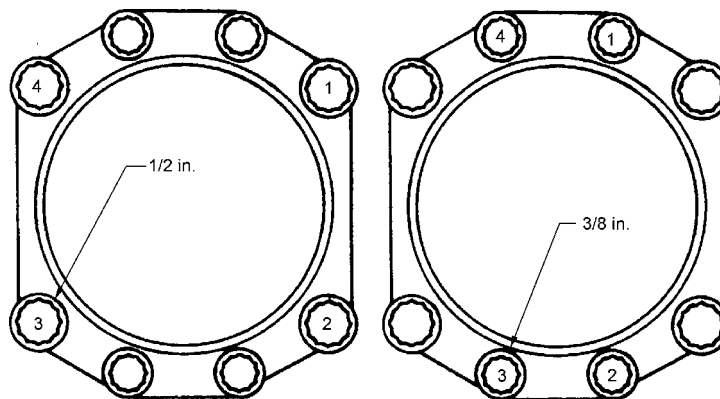

Figure 18
- (1) Tighten the 1/2-20 nuts on the cylinders in the sequence shown in Figure 18, as per the applicable torque values:
- (2) Tighten both ends of the free thru-studs simultaneously at the all locations. Make sure all thru-studs have at least 1-1/2 threads above attaching nuts at both ends.
- (3) Make sure all cylinder base hold-down nuts are torqued. Complete a torque check of all nuts on the cylinder base using the torque wrench to apply the appropriate torque on each nut for 5 seconds. If the nut does not turn, it is correctly torqued.
- (4) Apply torque seal to all cylinder hold-down nuts.